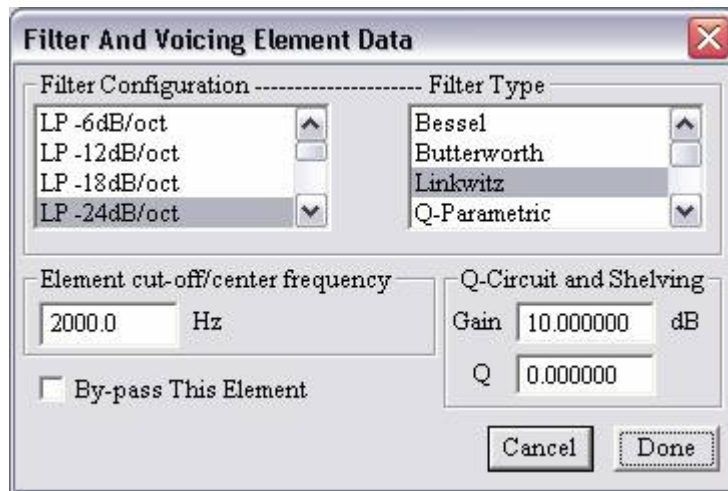

Figure 131. Setting the woofer low pass target.
- In a similar manner, choose a filter element in the branch which will be associated with the woofer and set the element parameters for the woofer Linkwitz/Riley, 4th order,, 2k Hz, low pass target, Figure 131.